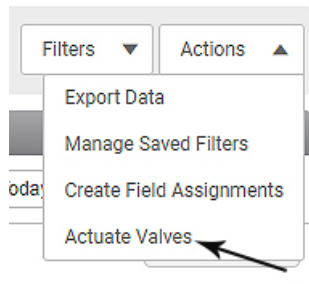

Figure 26: Actuate valves
2. Select **Actuate Valves** from the **Actions** drop-down menu on the top right of the BEACON Monitor page (Figure 26) to open the *Schedule Batch Valve Actuation* window.